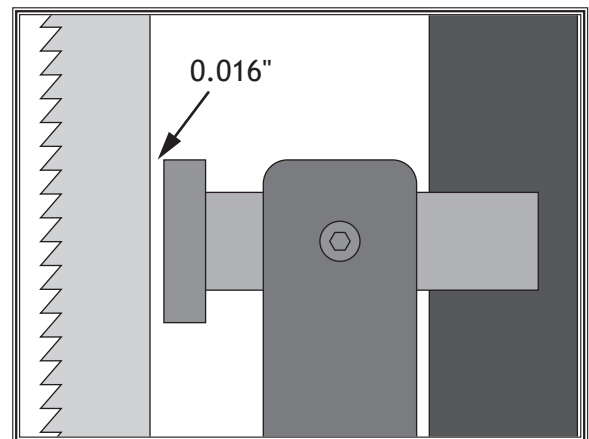

Figure 46. Bearing positioned approximately 0.016" away from back of blade.
3. Position support bearing approximately 0.016" away from back of blade, as illustrated in **Figure 46**.
Note: The roller discs should be positioned behind the gullets at a distance equal to that of the support bearing behind the blade (see **Figure 46** on **Page 34**).
Note: The guide bearings should be positioned behind the blade gullets a distance equal to that of the support bearing behind the blade (see **Figure 46 on Page 33**).